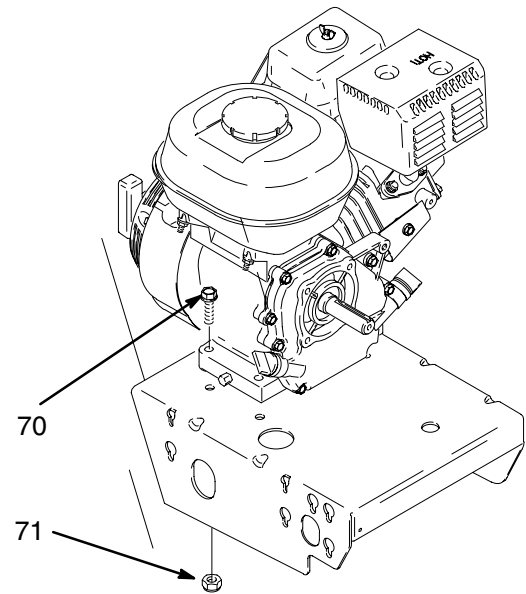

Fig. 13
3. Fig. 13. Remove two locknuts (71) and screws (70) from base of engine.
2. Fig. 13. Install two screws (70) in base of engine and secure with locknuts (71). Torque to 200 in-lb (22.6 N•m).